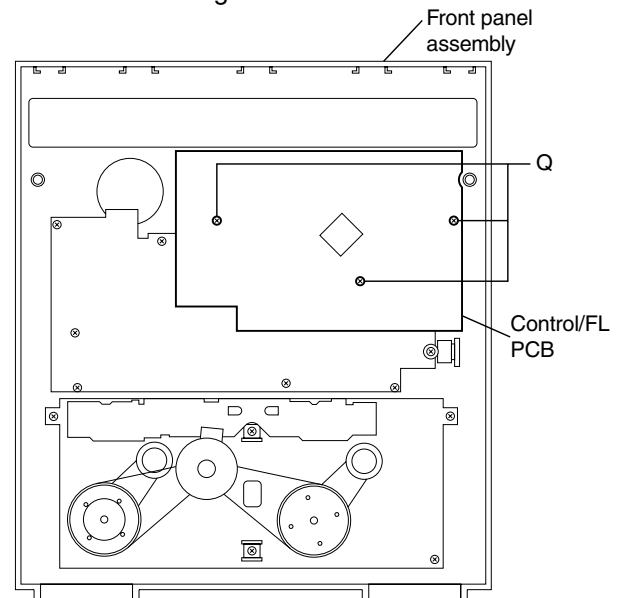

Fig.24
■ Removing the control/FL PCB (See Fig.24)
■ **Removing the switch PCB and ACTIVE BASS EX. switch PCB (See Fig.24 to 27)**